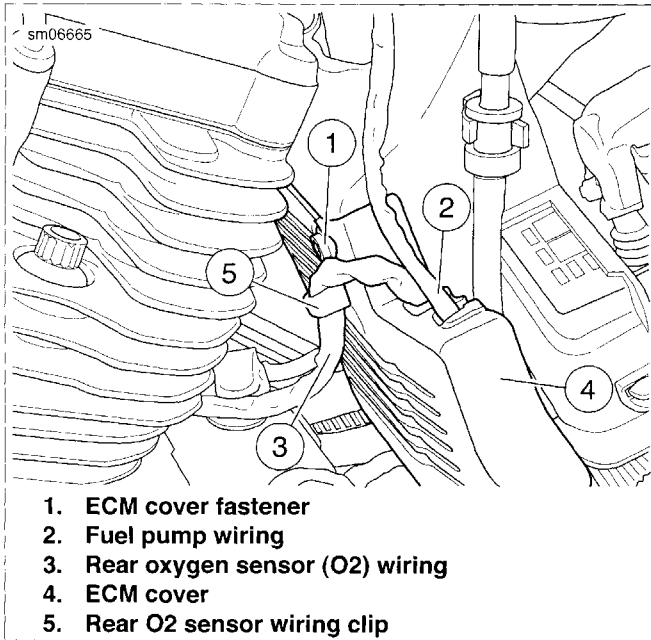
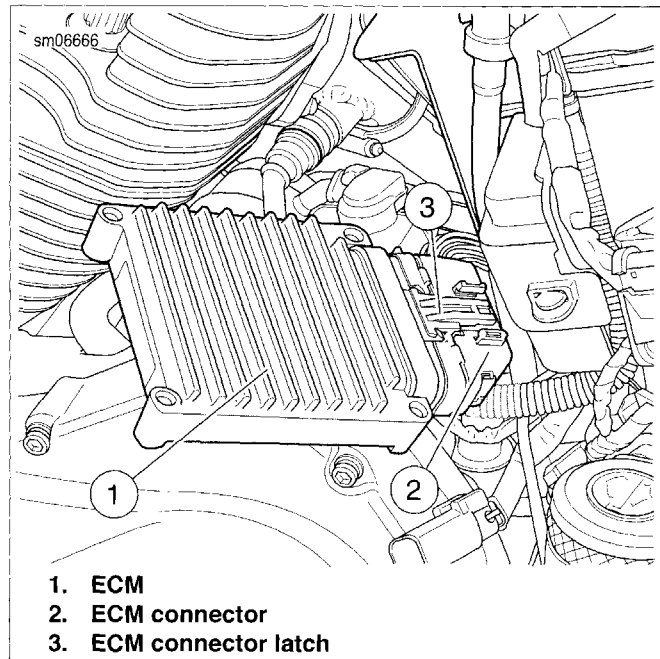

Figure 6-17. ECM Cover: XL Models
Figure 6-18. Electronic Control Module (ECM): XL Models
See Figure 6-18. The Electronic Control Module (ECM) receives data from sensors such as the crank position (CKP) sensor and the temperature manifold absolute pressure (TMAP) sensor. The ECM uses this data to time the firing of the spark from the ignition coil as well as providing other engine management functions. On XL models the ECM is mounted in front of the battery in a caddy. On XR models the ECM is mounted in a bracket on the rear fender under the seat.
2. See Figure 6-17. Remove fuel pump wiring (2) from ECM cover (4). Disconnect fuel pump connector [141].
3. Remove rear oxygen sensor (O2) wiring (3) from rear O2 sensor wiring clip (5) and ECM cover. Disconnect rear O2 connector [85].
4. Remove ECM cover fastener (1).
7. See Figure 6-18. Depress connector latch (3) and unplug ECM wiring harness connector (2) [78B] from ECM (1).
1. See Figure 6-18. Plug ECM wiring harness connector [78B] (2) into ECM. Gently press connector until latch (3) clicks in place.
3. See Figure 6-17. Slide ECM cover (4) into position from left side of vehicle.